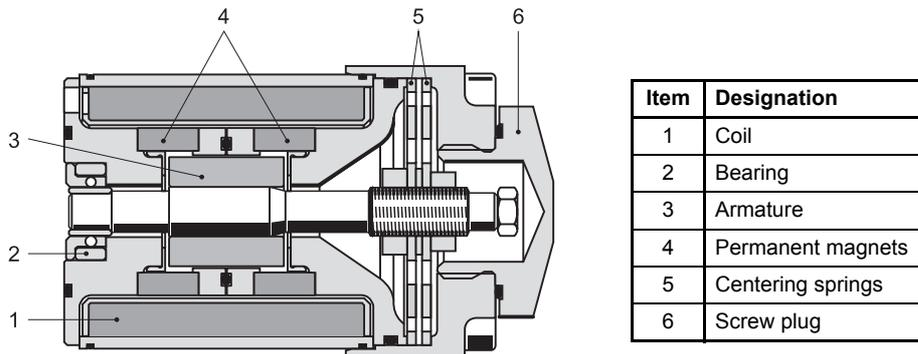

Figure 2: Representative depiction of a permanent magnet linear force motor
A permanent magnet linear force motor (figure 2 or item 10 in figure 1) is used to drive the valve spool (item 8 in figure 1).
The linear force motor (figure 2 or item 10 in figure 1) drives the valve spool (item 8 in figure 1). The spool starting position is determined in the de-energized state by the centering springs (item 5 in figure 2). The linear force motor enables the spool to be displaced from the starting position in both directions. Here, the actuating power of the linear force motor is proportional to the coil current.